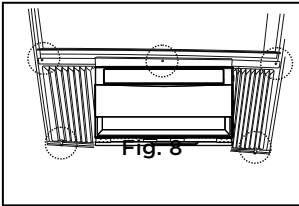

Fig. 8
B. Drive 3/4" (19mm) or 1/2" (12.7mm) locking screws through frame holes into window sash (Fig. 8).